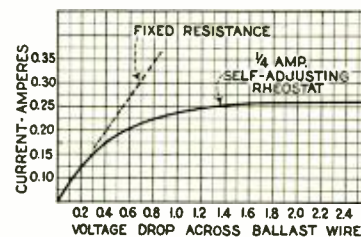

Fig. 2. Voltage-current curves of a fixed resistance and a ballasting wire resistance.
**- FIG. 2 -**
It will be seen that if we refer to the zero to fifty watt range the number of turns are only changed by some nine to twelve percent by the different correction factors. Referring again to Fig. 2, the correct number of turns are found by laying a straightedge from the proper watts on the watt staff, through the proper line voltage on the line voltage staff and the intersection with the turns staff will give the correct number of primary turns.
First we will describe what a ballast wire does and then how it works. Suppose we connected one in series with a battery rheostat and ammeter, and connect a voltmeter across the ballast wire. Now, let us increase the voltage across the ballast wire from 0 to about 2.5 volts (Fig. 2). At first the ballast wire acts like a fixed resistance. But after the current reaches about .2 amperes, the resistance increases rapidly as shown by the required voltage. At
Let us now go back to the experiment as shown in Fig. 2 and see how the ballast actually works. As the current increases, the filament heats up and increases in resistance. This in turn heats the surrounding gas, which causes a decrease in its conductivity. Now a further increase in current causes the wire to heat up more, increasing its temperature still further. The surrounding gas is now a poorer conductor. Less heat is taken